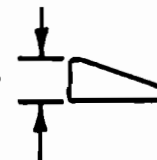

Figure 5
- (5) **UNDERDRIVE/OVERDRIVE REACTION PLATES** - The underdrive/overdrive Reaction Plates have always been available in 4 different thicknesses to adjust the Underdrive Clutch to proper specifications. For 1990, each plate was reduced in thickness by .040" to accommodate the new tapered snap ring location. Refer to the chart in Figure 4 for both 1990 and up selective reaction plate sizes with part numbers. The actual dimension change that took place can be seen by measuring just the lug thickness of the reaction plate. The 1989 reaction plate had a lug thickness of .196". When the tapered snap ring groove was moved down .040" in the Input Clutch Retainer to accommodate the extra lined and steel plate in the Overdrive Clutch pack, the lug on the reaction plate was also be reduced by .040" making the lug thickness .156" (See Figure 5). Then in 1993, the reaction plate had a redesign where a relief cut was placed across the top of the lug making the lug thickness .141". This was done to accommodate a change made to the tapered snap ring. Refer to the tapered snap ring changes on the following page and Figure 5. The selective drive/overdrive reaction plate chart in figure 4 for 1990 and up, provide part numbers for this new style reaction plate to be used only in 4 overdrive clutch drums. An updated tapered snap ring is included with each selective plate.
- (6) UNDERDRIVE/OVERDRIVE TAPERED SNAP RING - The thickness of this snap ring was originally .070" in thickness and could be easily recognizable as the snap ring would be Blue in color (See Figure 5). When the extra lined and steel plate was added to the overdrive clutch pack, the thickness of this snap ring was reduced by .010" because the friction that laid along side of this snap ring was also reduced in thickness as explained on the previous page. The 1990 snap ring for the 4 overdrive clutch pack became .060" in thickness and could be easily identified with either Green or White paint. In 1993, this tapered snap ring went from .060" in thickness to .075" to prevent excessive snap ring breakage. The color black was originally used to identify this .075" tapered snap ring but was soon changed to white due to a material change in the snap ring. This snap ring has also been known to be either Green or Blue in color. Caution should be used when selecting an underdrive/overdrive tapered snap ring as color identification may be confusing and none of these tapered snap rings can be interchanged. The .070" tapered snap ring is only used in the 3 overdrive clutch drum with a reaction plate that has a lug thickness of .196". The .060" tapered snap ring was used in 4 overdrive clutch drums with a reaction plate that has a lug thickness of .156". The .075" thick tapered snap ring is an update to the 4 overdrive clutch drums ONLY and should ONLY be used with reaction plates that have a lug thickness of .141" (See Figure 5).